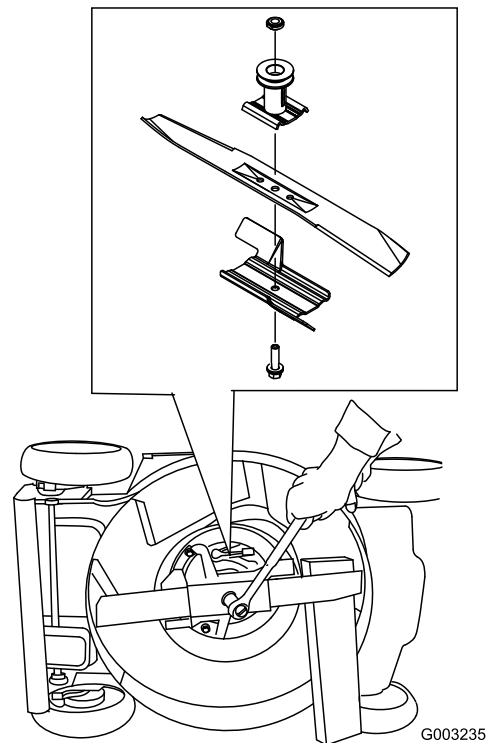

Figure 28
3. Use a block of wood to hold the blade steady (Figure 28).